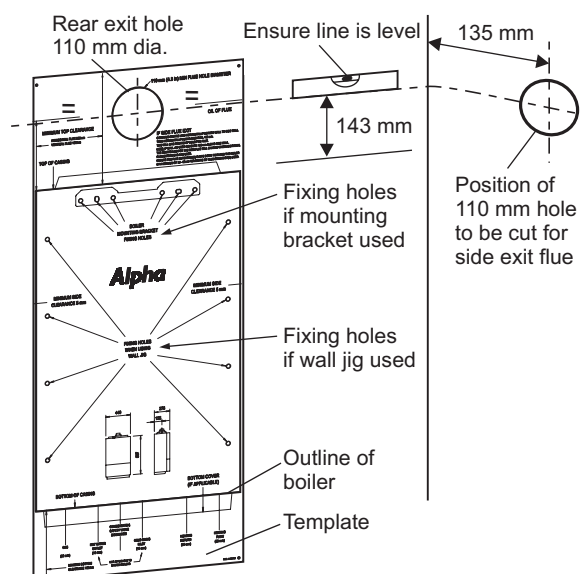

Fig. 4.2
4.3 PREPARE THE WALL - Fig. 4.2
4.4 FIT THE BOILER - Refer to Figs. 4.2 and 4.3